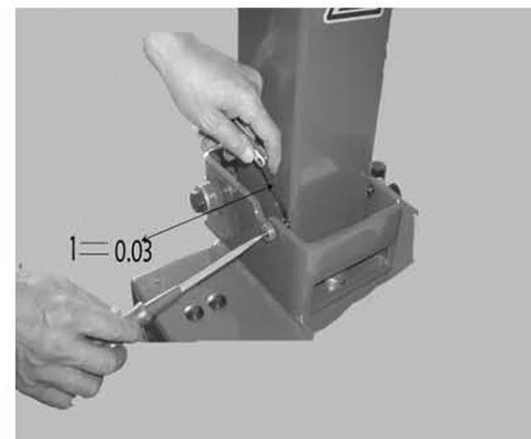

Fig12
3.2.9 Adjust the position screw on the two sides of the column: Loose the nuts on the two sides and adjust the gap between the head of the screw and the side of the column to make it to be 0.03mm (fig12) and then lock the nut.